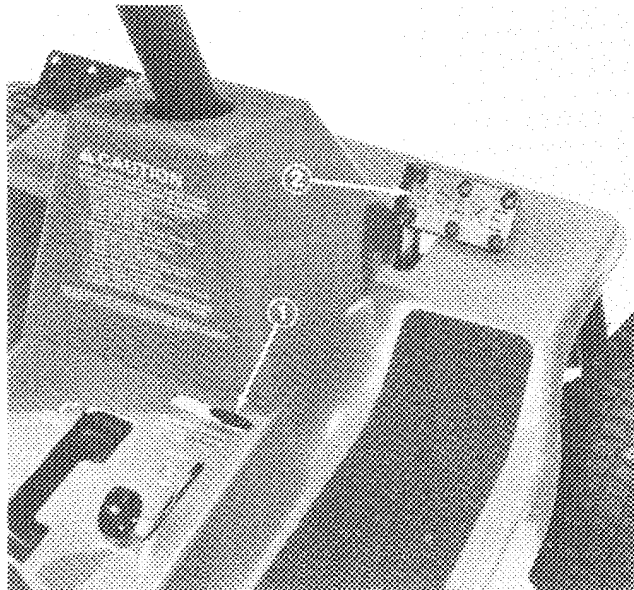

Figure 8
1. Engage the parking brake (Fig. 8): refer to Using Parking Brake, page 12.
2. Move parking brake control to the left and release brake pedal until it contacts end of parking brake lever (Fig. 8).
3. To release the parking brake, depress brake pedal (Fig. 8), which will allow parking brake lever to return to its disengaged position. Then release brake pedal.